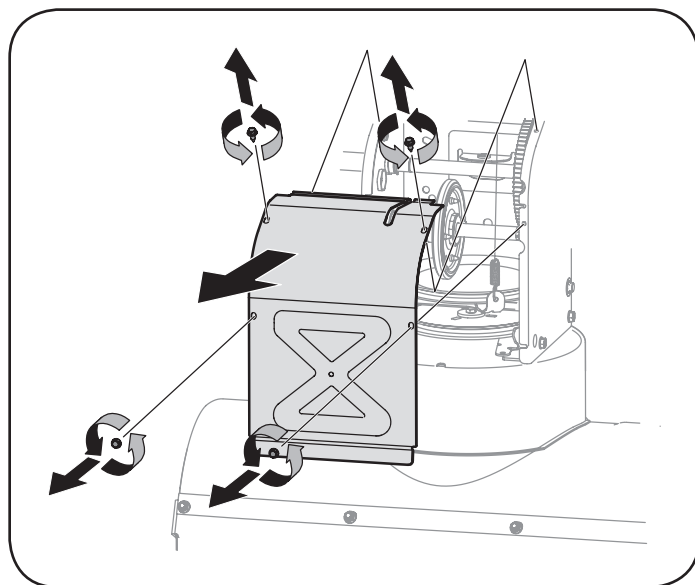

Figure 27
6. Remove the frame cover from the underside of the snow thrower by removing self-tapping screws which secure it. See Figure 27.